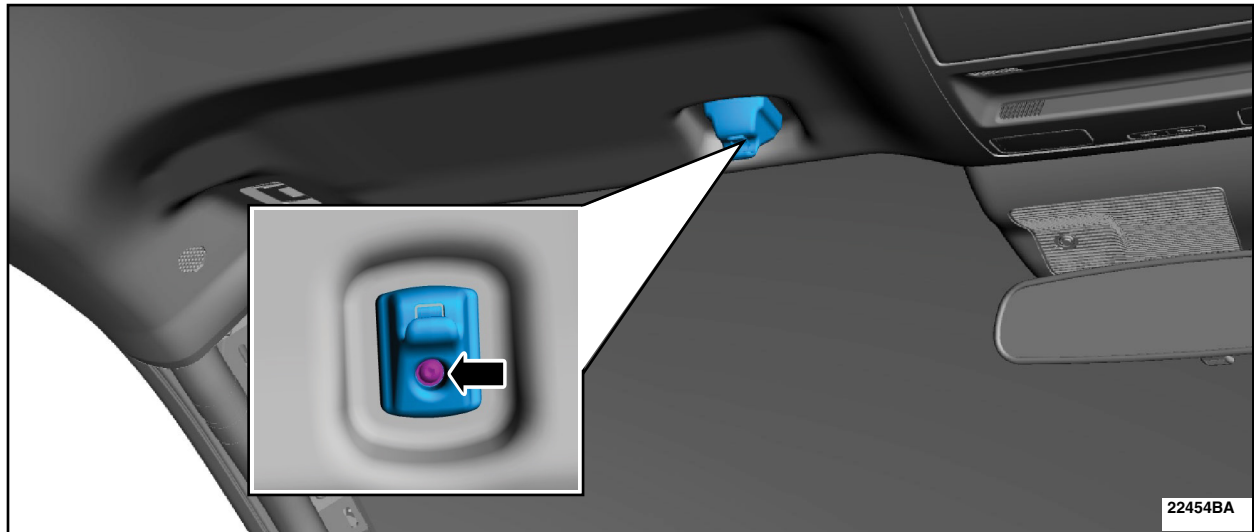

FIGURE 10
13. On both sides remove the bolt and the sun visor clip. See Figure 10.